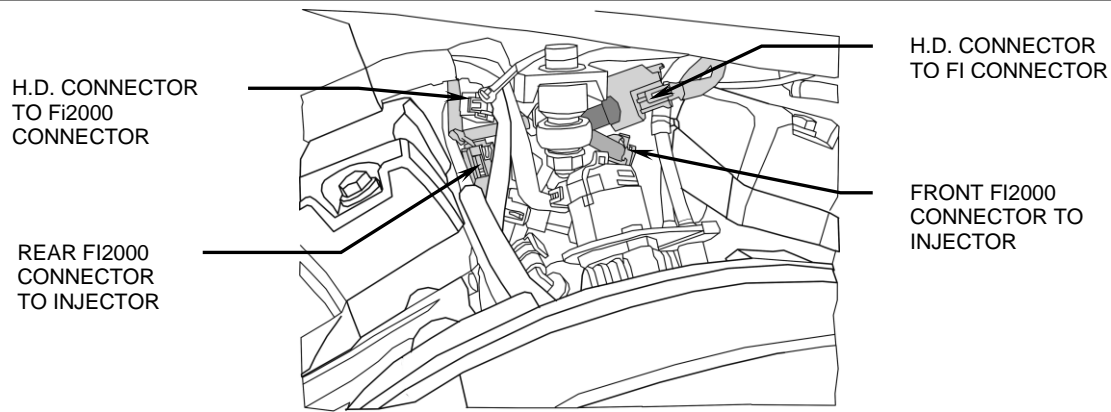

FIGURE 2
4. Attach one pair of the Fi2000 module's injector plugs to the front injector. Take the original female HD connector and insert the corresponding Fi2000 male connector into it, refer to Figure 2.
5. Attach the Fi2000 module's remaining injector plug onto the rear injector. Then take the original female HD connector and insert the corresponding male Fi2000 connector into it, refer to Figure 2.